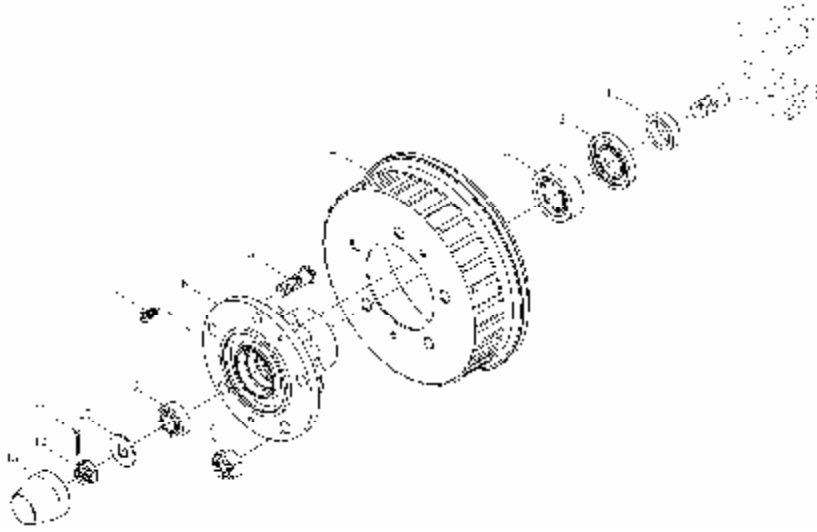

Figure 7-5-2 Front wheel hub and brake drum
- (2) Check and repair steering knuckle
- ①Perform defect-detecting test for any cracks on knuckle shaft journal and upper/lower eyes. Replace parts with crack.
②Replace knuckle shaft journal if tread is damaged (over two teeth).
③Check shaft journal wear. Replace worn-out parts (figure 7-5-2).